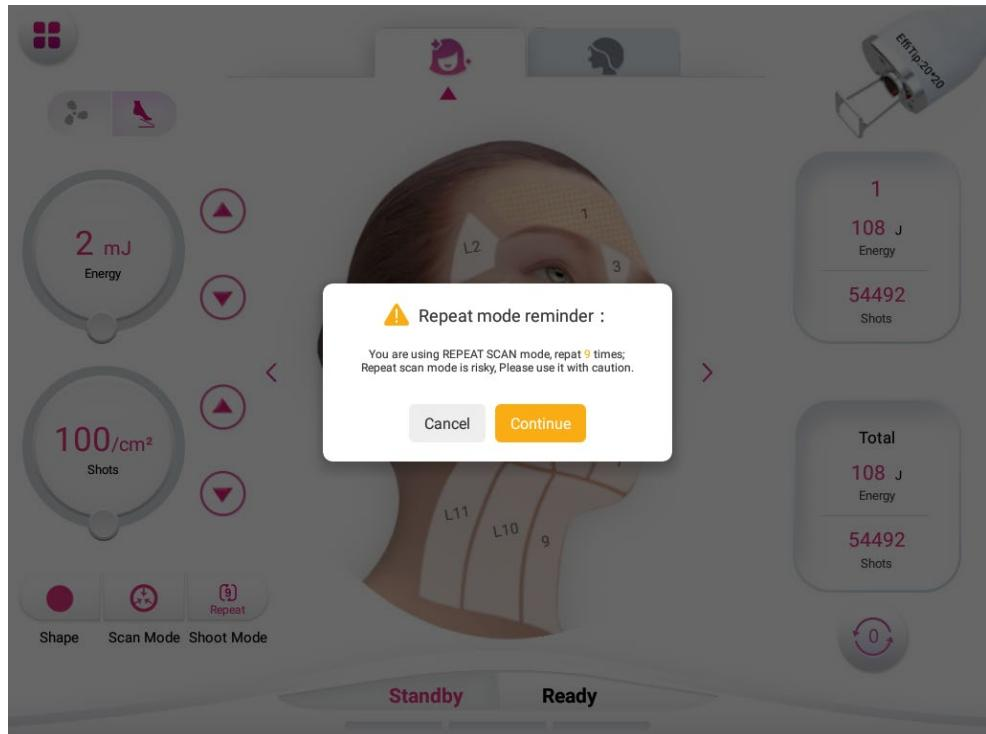

Figure 3-5-2
⑪Part energy: record the accumulated energy and shots of the selected part.
⑫Total energy: record the total energy of all treatments during the power is on.
⑧⑨Face, scalp: switch to face or scalp treatment
⑩Applicators: the type of treatment tip is using
⑬Clear: Clear the total energy manually.
⑭⑮Standby /Ready: In ready, trigger the footswitch, laser shots; In standby, no laser shots. When clicking Standby, a reminder box will pop up if the device is in repeat mode. As shown in Figure 3-5-2